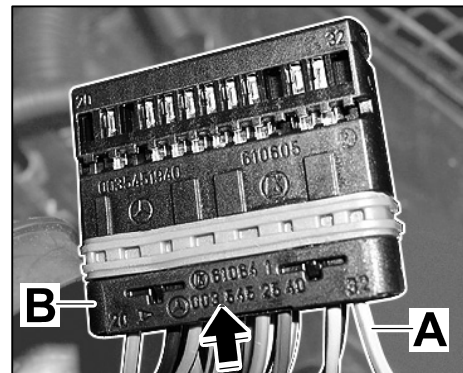

Figure 24
- 4.4.7 Insert socket contact of GY/BU line ⇒ *Figure 24 -A-* into chamber 31 of the plug socket and fit plug bush ⇒ *Figure 24 -B-* into the connector housing.